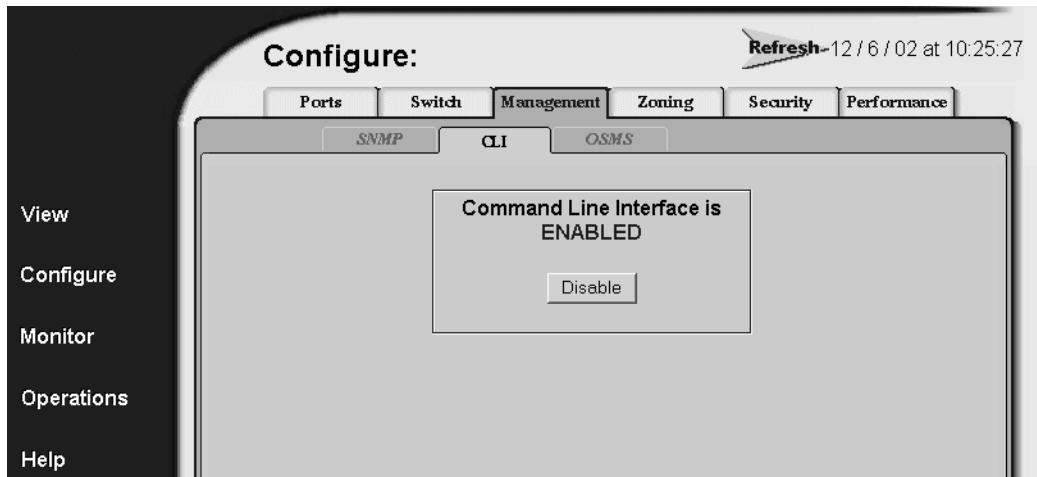

Figure 22: Management page—CLI tab
1. Choose **Configure > Management > CLI** to display the **CLI** tab (Figure 22).